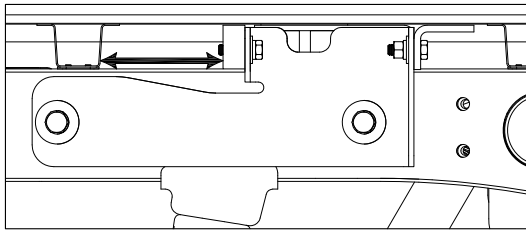

Figure D1: Passenger side of truck frame inside the wheel well.
4. **Square the hitch.** With a tape measure, check the distance between the Turnoverball hitch and the nearest bed crossmember. The distance between the hitch and the crossmember should be consistent on the passenger side and the driver side of the hitch, see Figure D1. Adjust hitch until the hitch and the bed crossmember are the same from side to side.